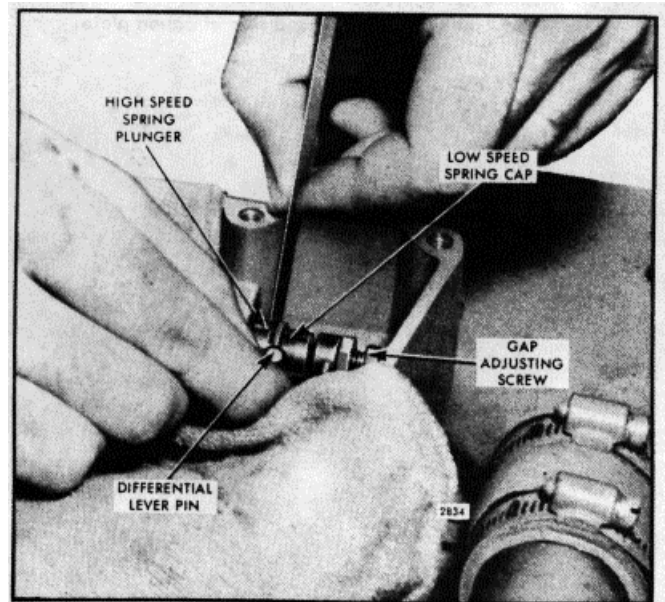

Fig. 1. - Adjusting Governor Gap
6. Check the gap between the low-speed spring cap and the high-speed spring plunger with a feeler gage (Fig. 1). The gap setting should be .002"-.004".
6. Check the gap between the low-speed spring cap and the high-speed spring plunger with gage J 23478 (.200") as shown in Fig. 1.